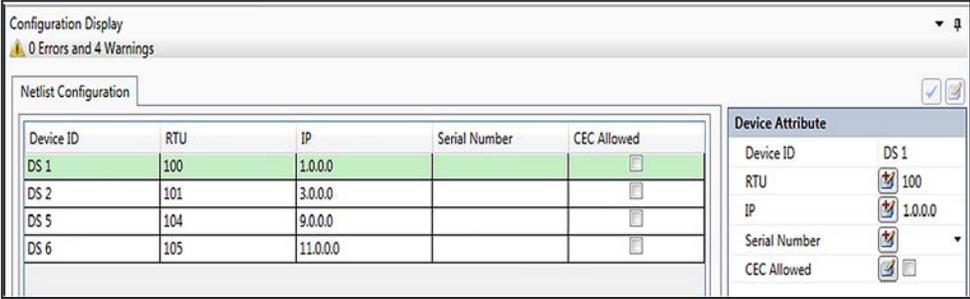

Figure 29. Configuration display.
When the configuration display is hidden, the tab is the only one shown on screen. Hovering over or clicking on it will show the configuration display until the mouse is moved away from the tab and click on other pins. See Figure 29.
**Note:** When selecting the **Team ID** in the Configuration dialog box, the team ID (T1) and all team members (DS2, DS3, and DS4) are highlighted on the circuit shown in the workspace. See Figure 29 on page 41.